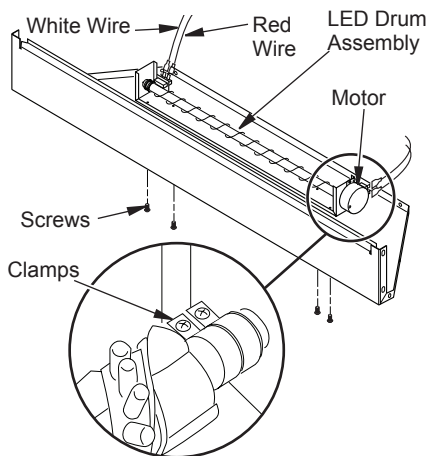

Figure 18 - Flame Generation LED Drum Assembly
8. If motor on assembly fails, loosen clamps (see Figure 18). Remove screws from motor. Hold universal joint while removing motor and discard.